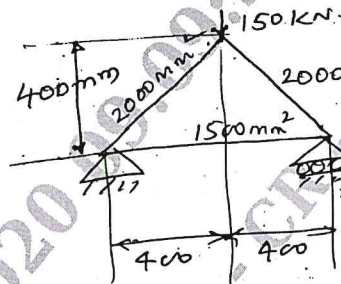

Fig Q6(a)
- 6 a. Consider a 3 bar truss as shown below in Fig Q6(a). Determine the nodal displacement and elemental stresses